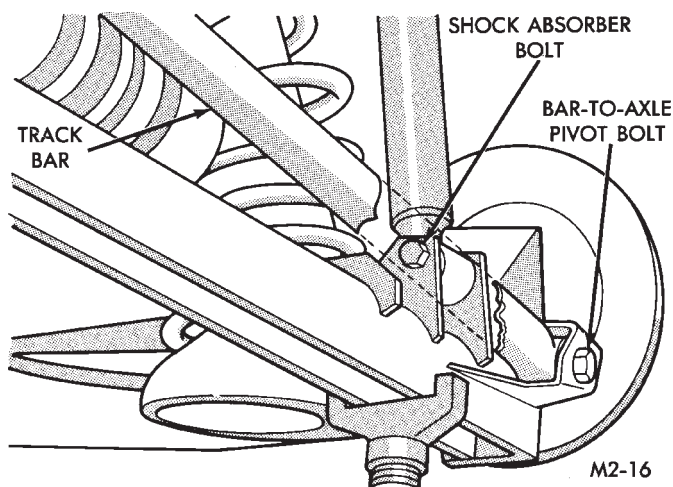

Fig. 2 Remove Shock Absorber and Track Bar Bolts
(4) Remove lower shock absorber through bolts and track bar to axle pivot bolt. Support track bar end with wire (Fig. 2).